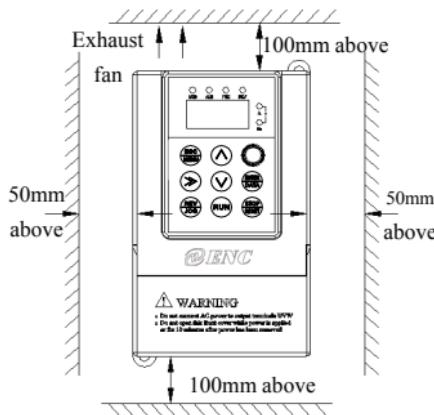

Fig.3-1 Mounting space
(1) Normally the inverter should be mounted vertically, horizontal mounting will seriously affect heat dissipation and the inverter must be used in lower volume.
(2) Demand for minimum mounting space and distance, Please see Fig.3-1.